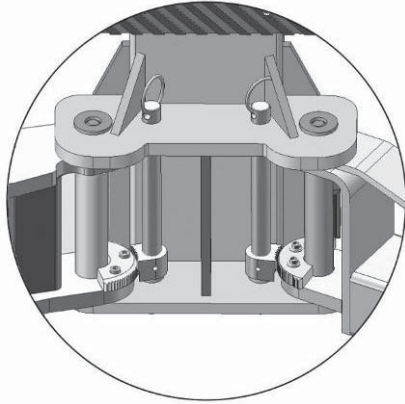

Fig. 31
1. Install the lifting arms (See Fig. 31).